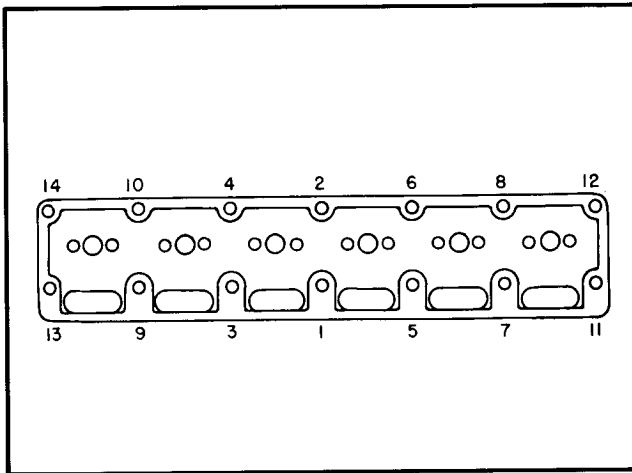

Fig. 12-44. Tightening sequence
3. Tighten capscrews or stud nuts to 25 foot-pounds torque in sequence shown in Fig. 12-44, Page 12-14.